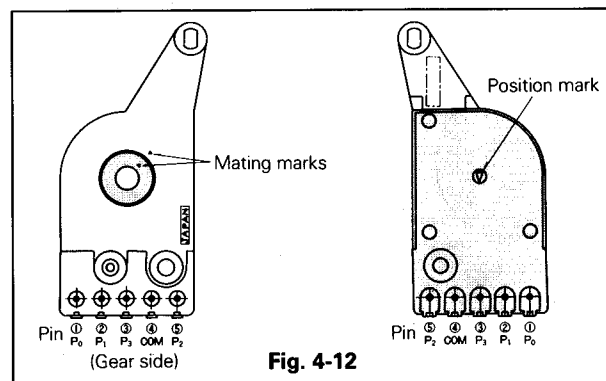

Fig. 4-12
- Match the mating marks on the mode switch as shown in Fig. 4-12.